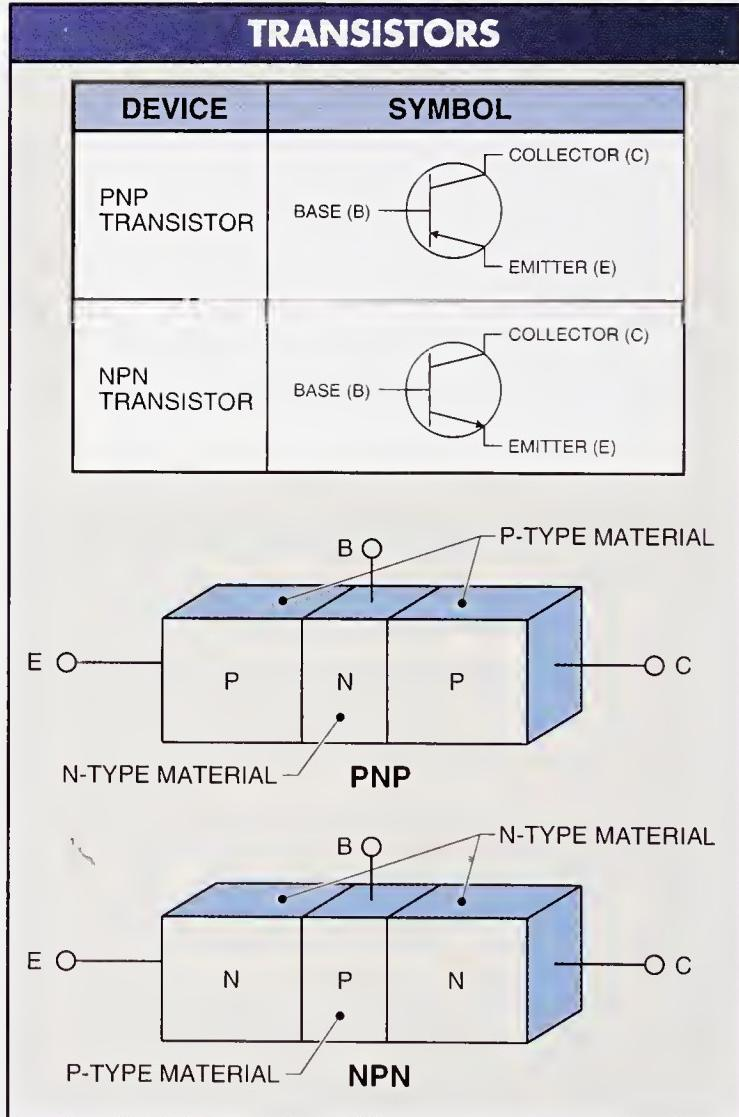

Figure 5-27. Transistors are used in electronic circuits as switches or signal amplifiers.
A *transistor* is a three-element device made of semiconductor material. A transistor is used in circuits as either a switch or an amplifier. Transistors are used as current control devices. The three elements of a transistor are the emitter (E), base (B), and collector (C). On a transistor symbol, the lead with the arrow is the emitter. A transistor is an NPN transistor when the arrow points away from the base. A transistor is a PNP transistor when the arrow points toward the emitter. See **Figure 5-27**.